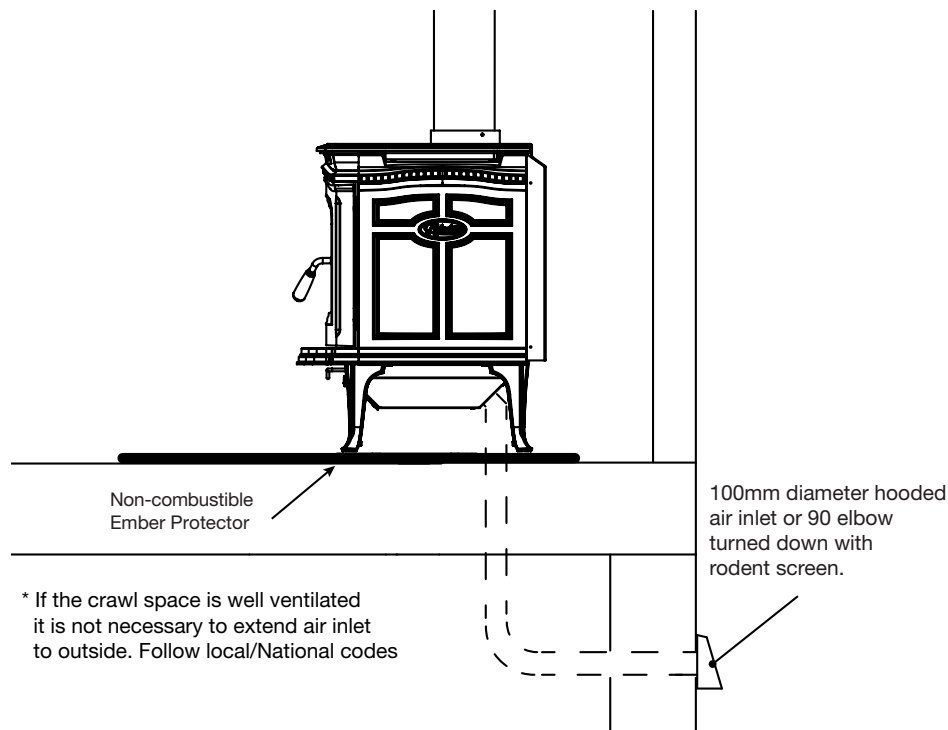

Figure 25. ALT AS Fresh Air.
1. **Outside air supply** - (Necessary for mobile home installation, optional for residential installation.) To draw outside air through the floor, cut or drill a 100mm diameter hole directly below the bottom hole of the ash box enclosure (Figure 25). Connect enclosure to the floor with a short 100mm diameter pipe.
This hole must get its air from a **ventilated** crawl space or be extended with duct to the outdoors (Figure 25). The use of outside combustion air for residential installation requires the unit to be secured to the structure to prevent dislodging of the air duct.